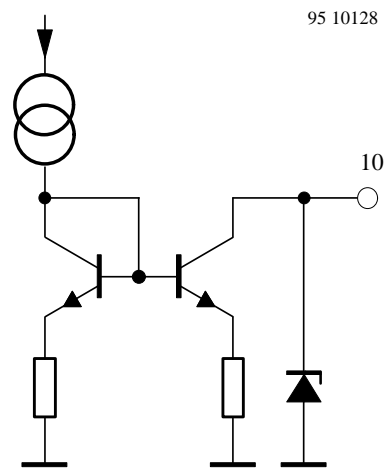

Figure 13. Pin 10 SW_{out}
- 3) Protected by a Z-diode, see figure 13